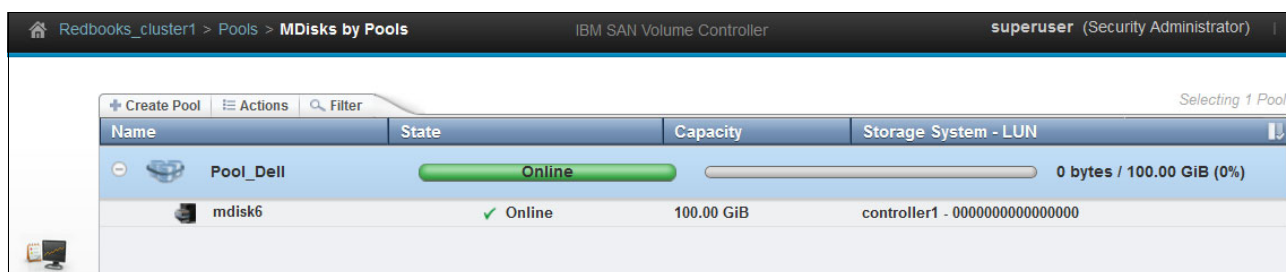

Figure 14-34 MDisk from a Dell controller that is configured in a new pool
After these steps are complete, you can use the added external Dell Equallogic PS Series controller for migration or virtualization purposes. The steps are the same as for external LUNs attached through Fibre Channel (FC): In the **Pools** → **MDisks by Pools** window, create a pool if necessary and add the managed disks to the pool (Figure 14-34).